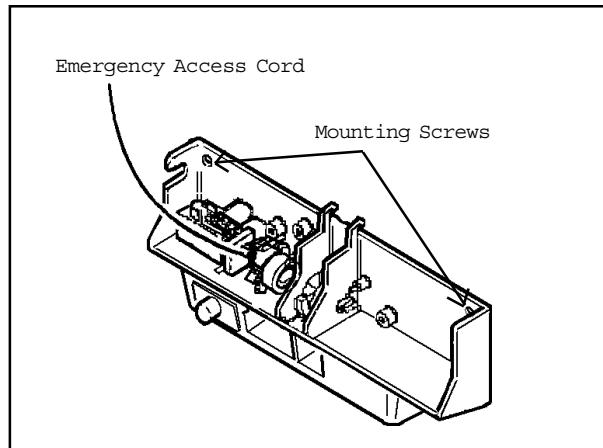

Figure 5-8
NOTE: When the cord is released, the lock will return to a locked position (Figure 5-8).
4. Remove two 5/16" hex-head screws securing the switch support to the metal shroud support (**Figure 5-8**).